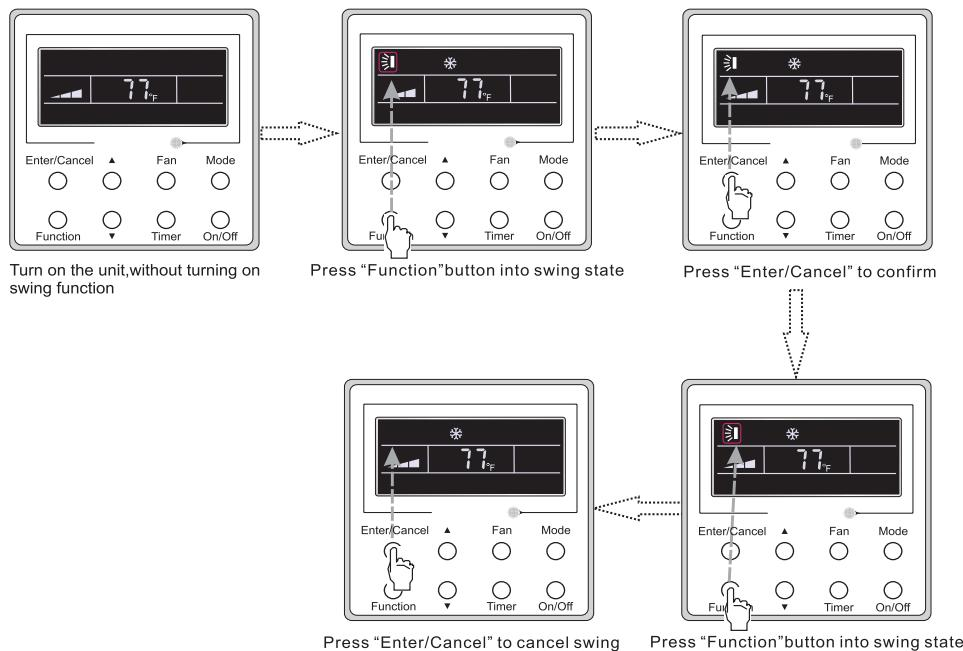

Fig. 12 – Swing mode
- **SWING OFF**: When the **SWING** function is on, press **FUNCTION** to enter the **SWING** setting interface **■**. Next, press **ENTER/CANCEL** to cancel the function (see Fig. 12).